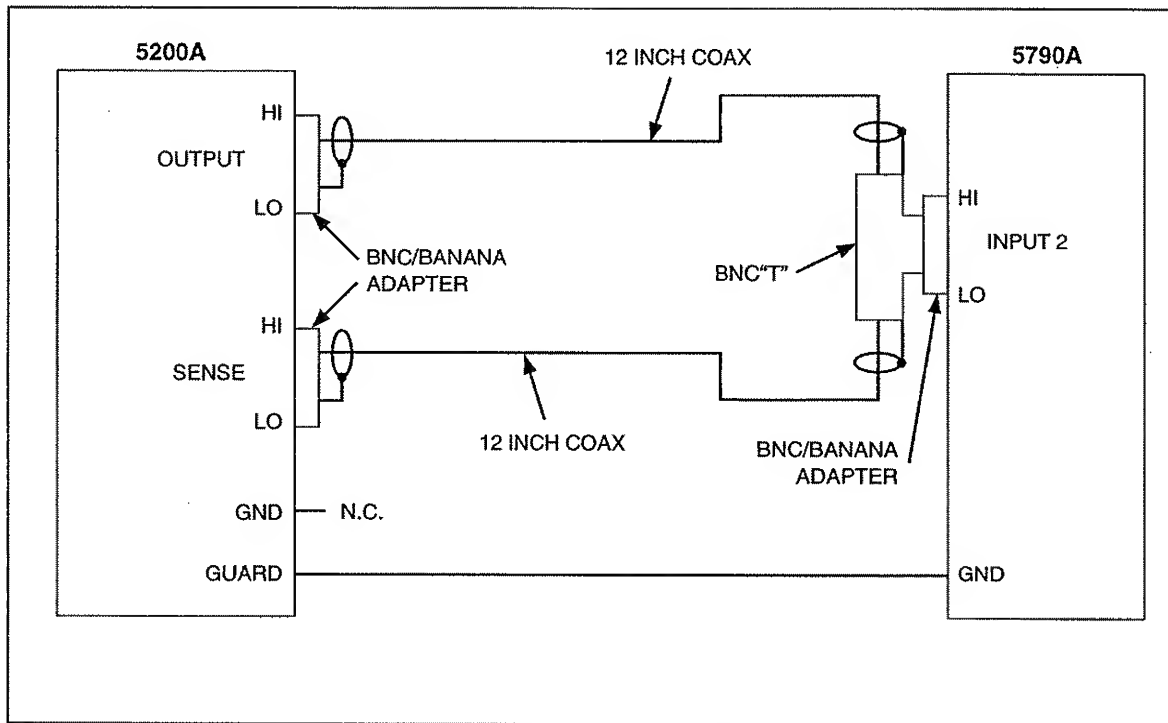

Figure F-2. 1V, 10V, 100V Output Accuracy Equipment Configuration
1. Connect the equipment as shown in Figure F-2.
2. Connect the equipment as shown in Figure F-2.